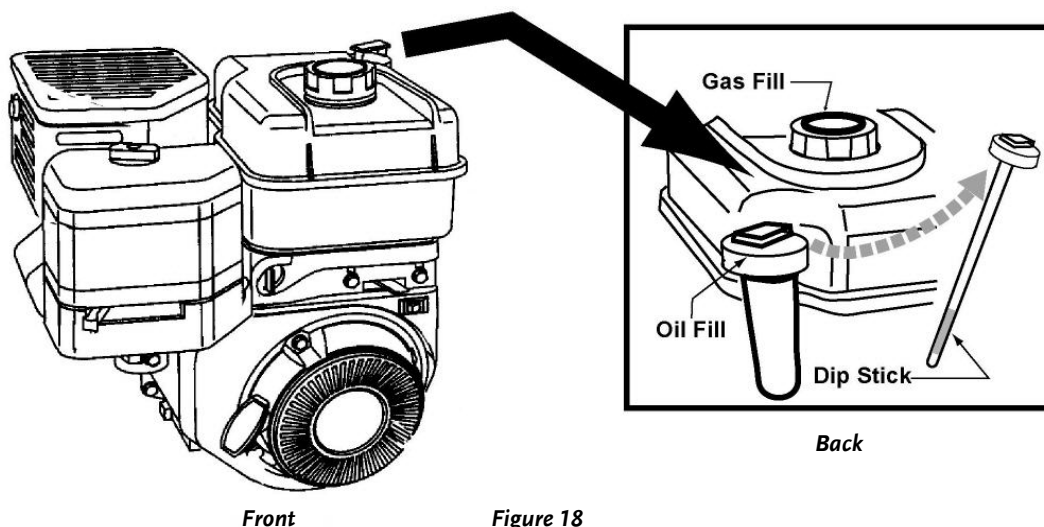

Figure 18
1. Place the machine on a level surface and initially add 16 oz. ( $\frac{1}{2}$  quart) of SAE 30 oil, recommended by the engine manufacturer, and wait one minute for the oil to settle (**Figure 18**).
2. Check the dipstick and continue adding a few ounces of oil at a time, rechecking the dipstick until the oil reaches the fill mark. Be careful not to overfill (**Figure 18**).
2. Check the engine oil level every time you use the machine (see **Figure 18** on page 25).
3. Check the gasoline level (see **Figure 18**).